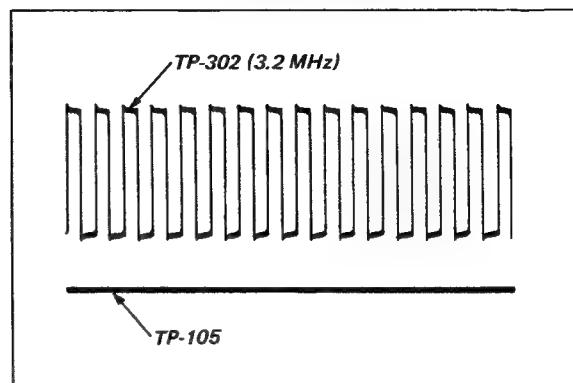

Fig. 5-2a. Waveforms in Steps 5 and 6
b. Set scope controls to obtain a stable trace. A correct carrier frequency of 3.2 MHz is indicated when there are 16 complete square waves in ten divisions. Set R126 to produce this indication. See Fig. 5-2a.
6. Note the position (dc voltage level) of the trace on CHANNEL 2 with reference to the trace on CHANNEL 1 (as obtained in Step 5). See Fig. 5-2a.